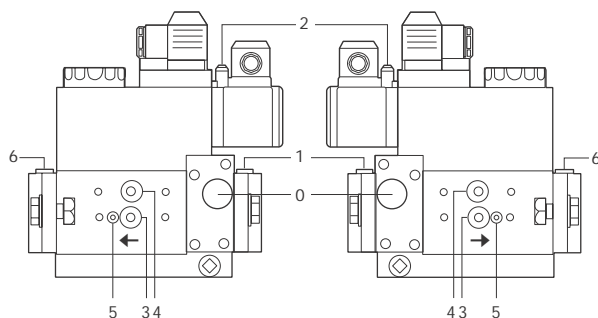
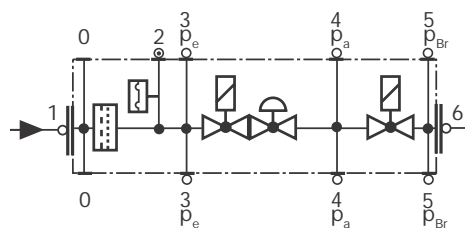

Fig. 27
Fig. 28
- Change the filter if the pressure difference between pressure connection 1 and 3 (Fig. 27-Fig. 28) is $\Delta p > 10$ mbar.
- Change the filter if the pressure difference between pressure connection 1 and 3 (Fig. 27-Fig. 28) is twice as high compared to the last check.